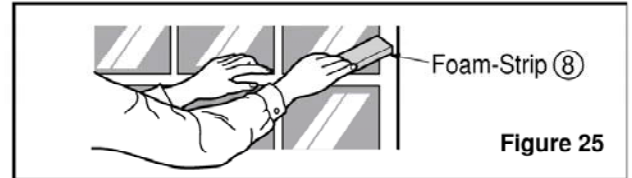

Figure 25
11. Cut the foam-strip ⑧ to the proper length and insert between the upper and lower window sash. (See Fig. 25)